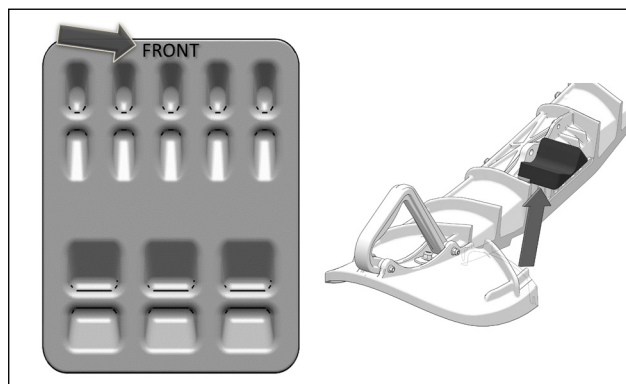

Figure 11
- Check if «FRONT» marking under ski rubber is positioned towards front of ski. Figure 11.